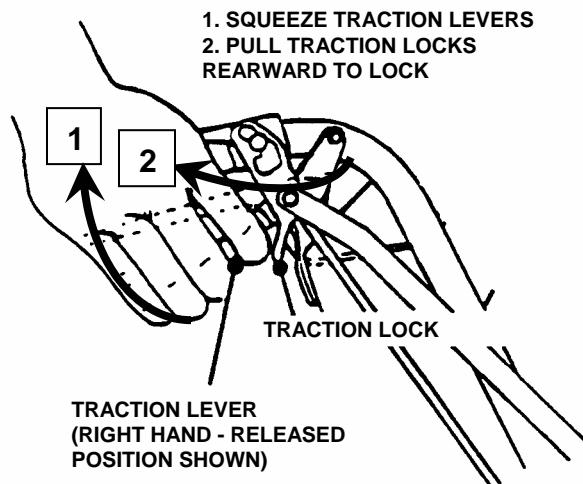

FIGURE 3.8
3. Move Transmission Shift Lever to REVERSE (R) position.
7. To STOP forward or reverse motion, firmly squeeze both Traction Levers towards the handle and hold. Using your index fingers, pull right and left Traction Locks back until both Traction Levers lock in Traction Locked position. See Figure 3.8.